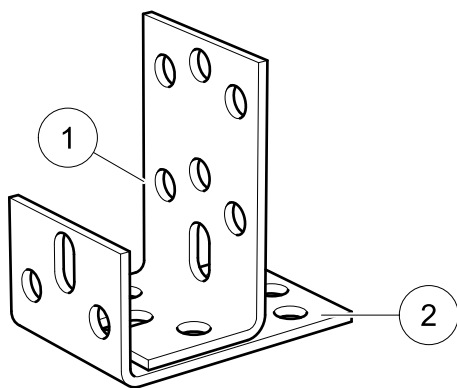

Fig. 7 Mounting brackets
Double mounting brackets (pos. 1 and 2, figure 7) are used for TopvexFR06–11 to ensure a stable fit. TopvexFR03 have single brackets (pos. 1).